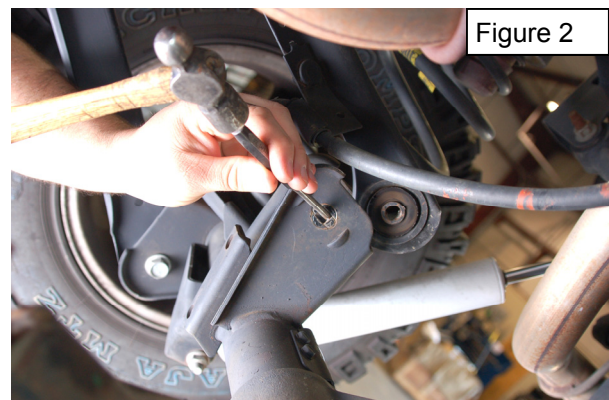

Figure 2
2. Using a floor jack under the axle, jack up the axle to relieve the pressure on the bolt to allow it to be removed. Pull the upper control arm up to allow the tabs to be knocked out as shown in **Figure 2.**